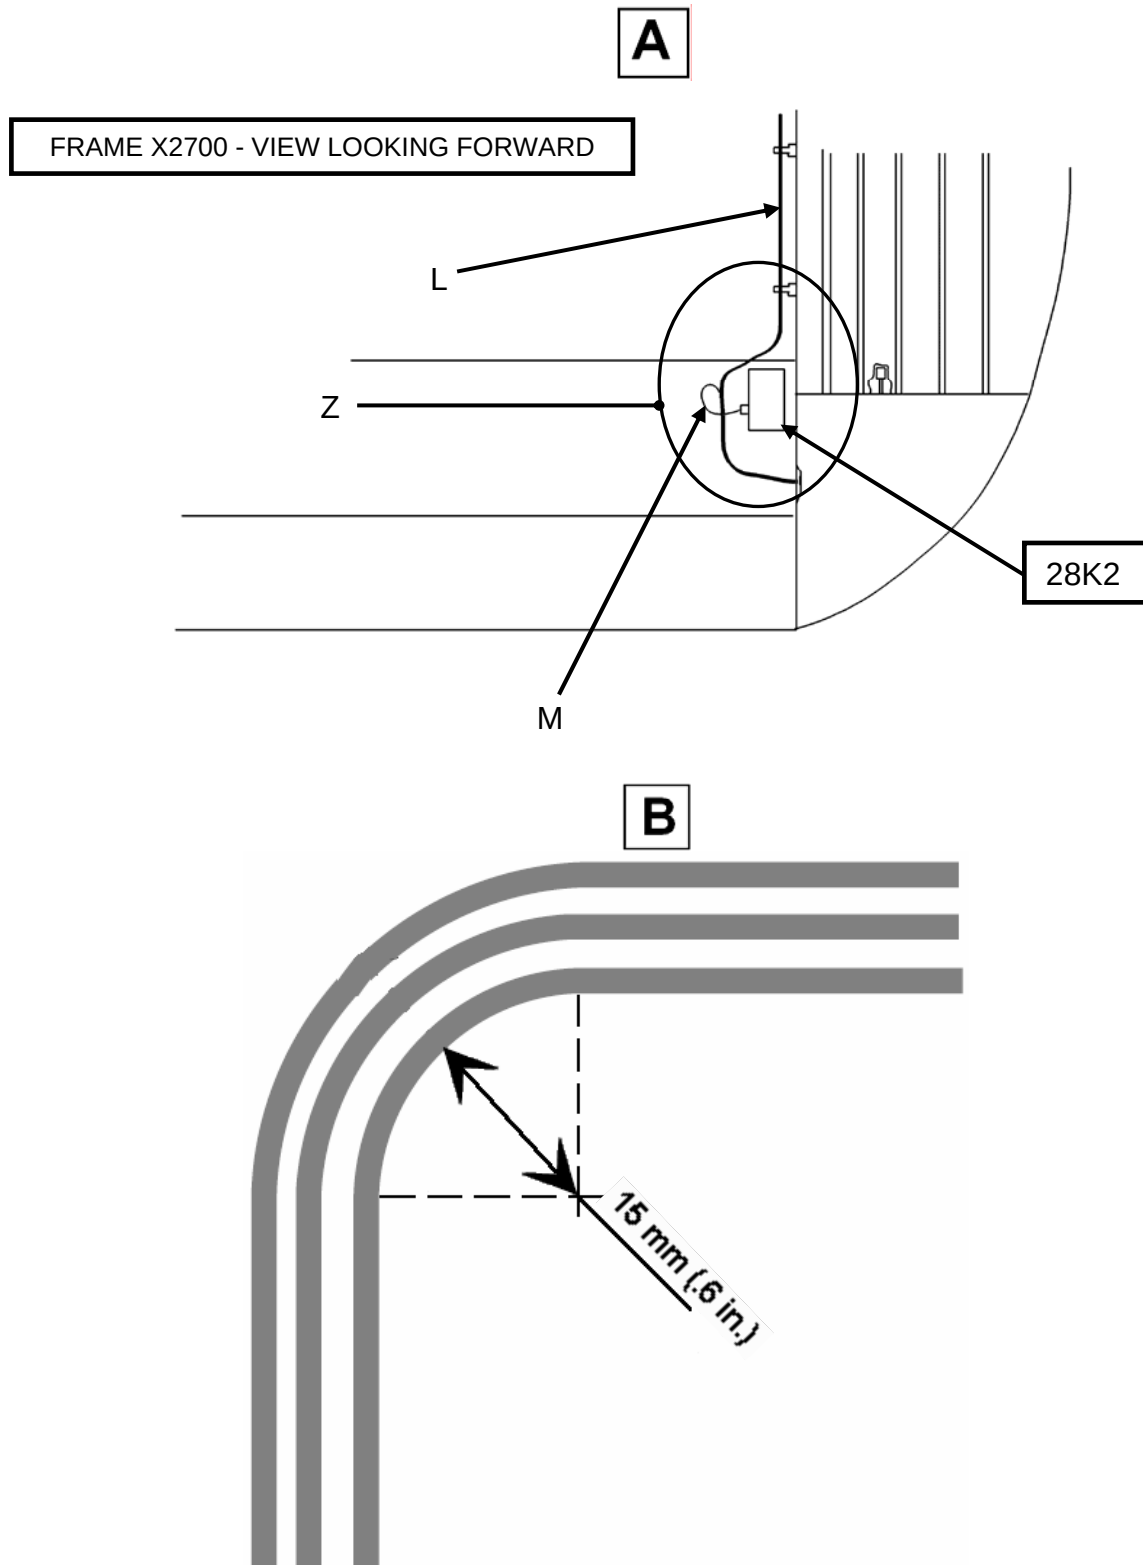

Figure 2
- In zone Z (Figure 2), cut and discard the binding clamps, then remove the spiral wrap tubing from electrical harness (L), in order to release the XPC cable over-length (M).
- Check that the remaining length of the XPC cable (M) is sufficient to reconnect it to the XPC anticipator in accordance with the routing (Detail A) and curvature radius (Detail B), shown on Figure 2.
The adjusted cable length shall provide for a 15 mm (.6 in.) bending radiu: see Figure 2.